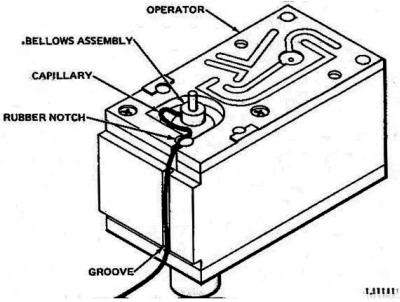

Fig. 9. Form capillary smoothly and without crimping to fit in hole in operator.
6. Run the capillary through the rubber notch in the bottom of the operator and up the groove in the side. See Fig. 9. Tape the capillary in place.